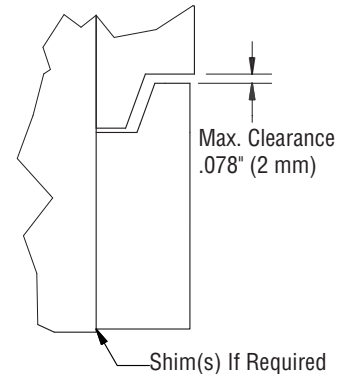

Figure 14, Lower hook clearance
9. Install the bolt-on lower hooks. Inspect clearance to the carriage on lower hooks. Adjust the lower hooks for a maximum clearance of 3/32" (see Figure 14). Tighten the bolts to 40-50 ft-lbs.